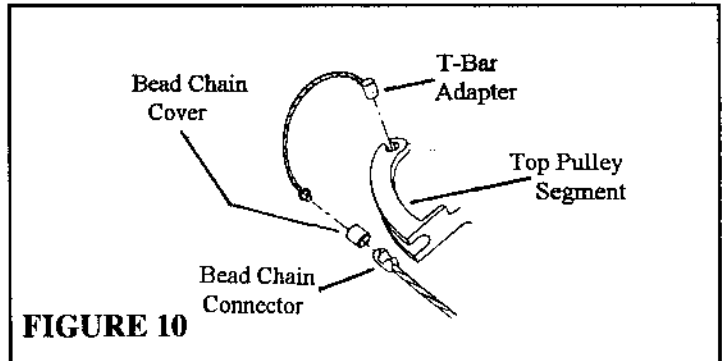

FIGURE 10
3. Attach a **Bead Chain Connector** onto the **Cable Assembly**. (Figure 10)